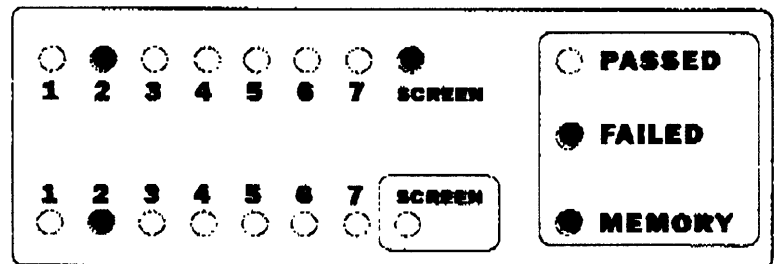

Fig9. SHORT TO SCREEN.
- A short to SCREEN, this may be indicated by one, or both the screen LED's being ON in conjunction with another pair of LED's (Fig9).